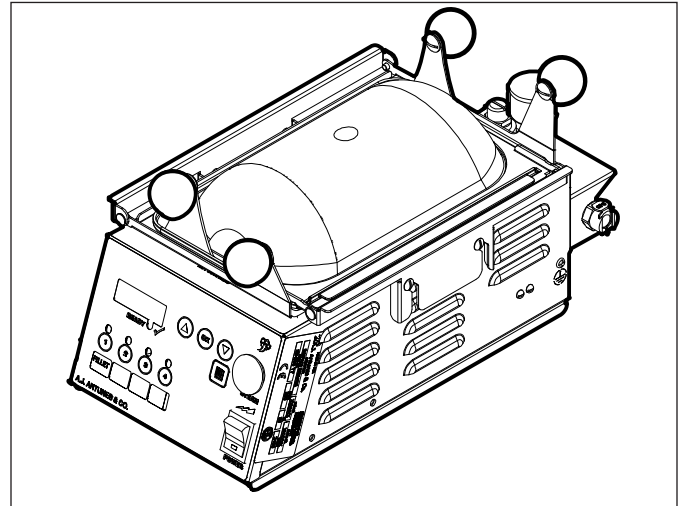

Figure 1. SS-200TT Surface Steamer
- Surface Steamer unit (Figure 1)